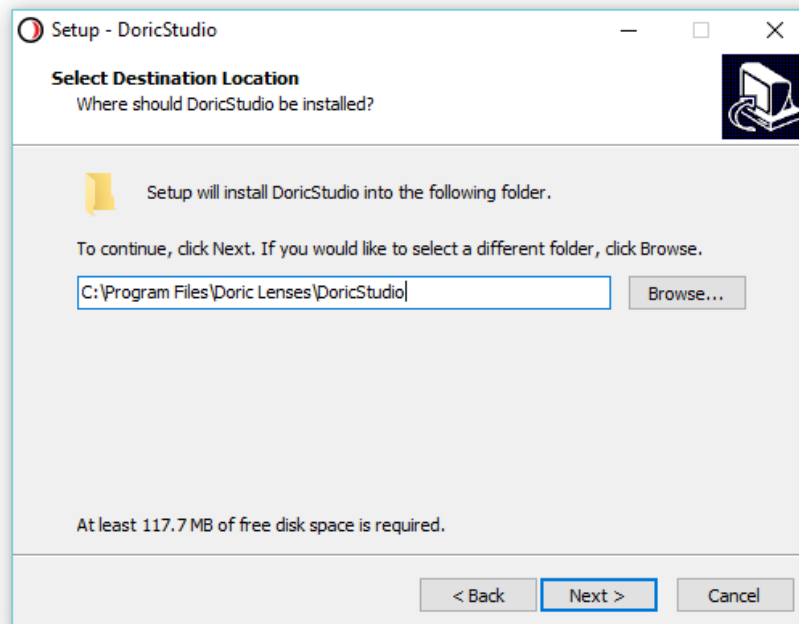

Figure 3.2: Select Destination Location
5. **Choose** where to install the software (Fig. 3.2) and **Click Next**.